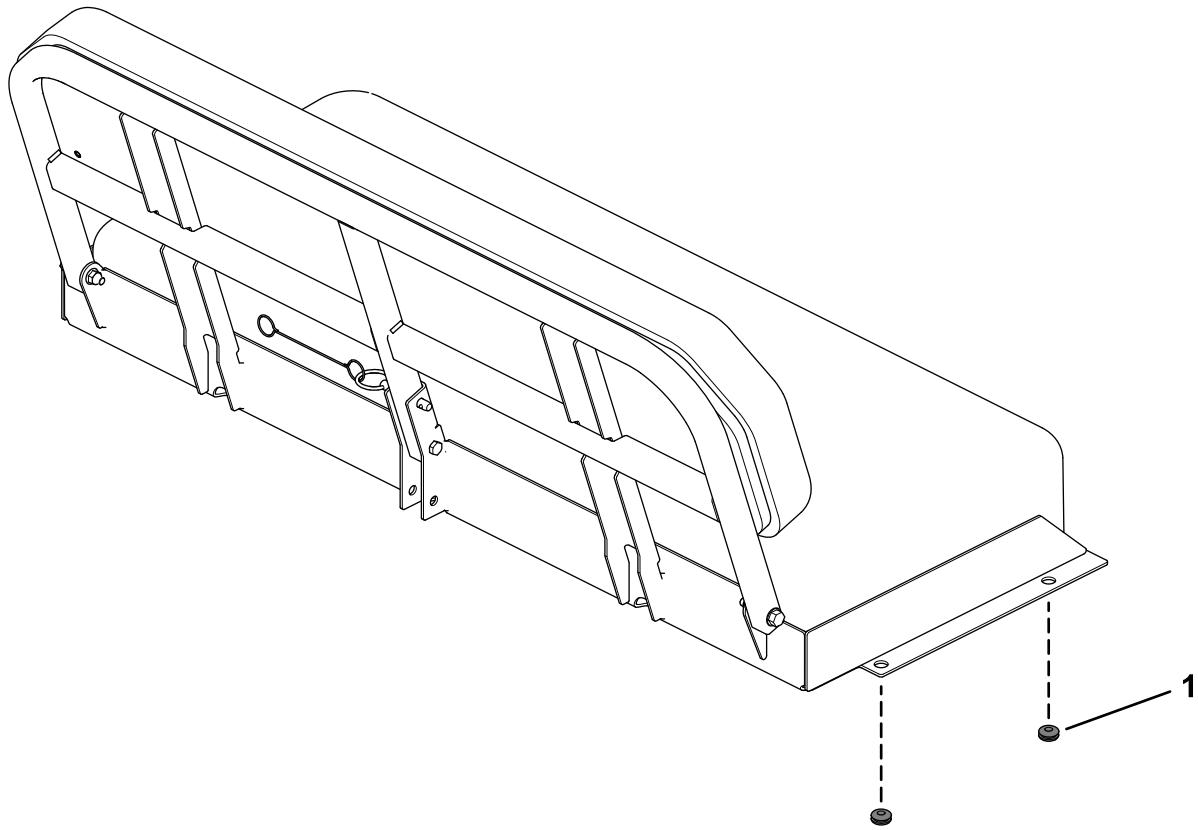

**Figure 9**
8. Install the side rails to the flatbed assembly with 8 carriage bolts (3/8 x 3 inches) and 8 hex nuts (3/8 inch) as shown in Figure 9.